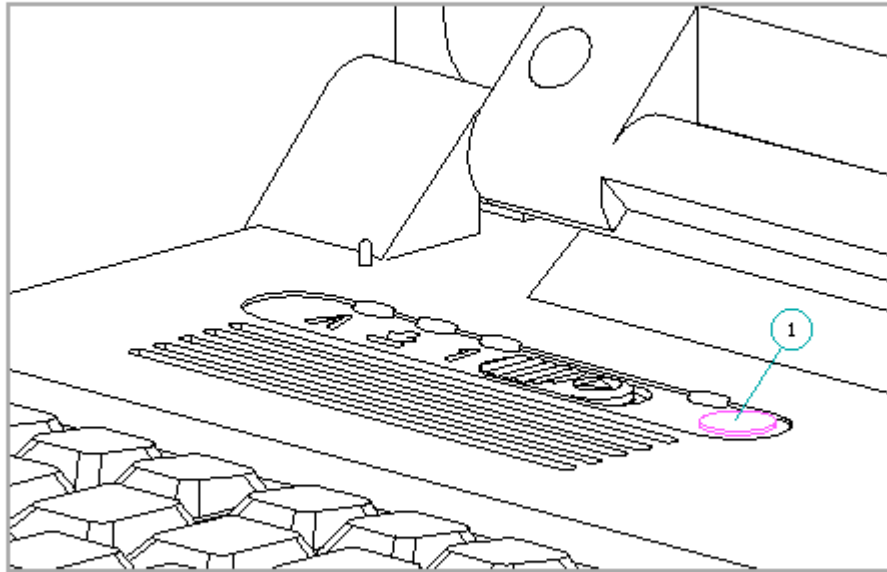

Figure 1-17. Standby Button
- o When the user presses the standby button [1] (Figure 1-17).